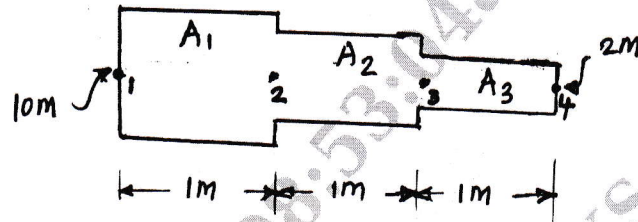

Fig Q8(b)
b. For the Smooth pipe with stepped cross-section as shown in Fig Q8(b), determine the potentials at the junctions. The potentials at the left end is 10m and that at the right end is 2m. Assume the permeability coefficient is 1m/sec.